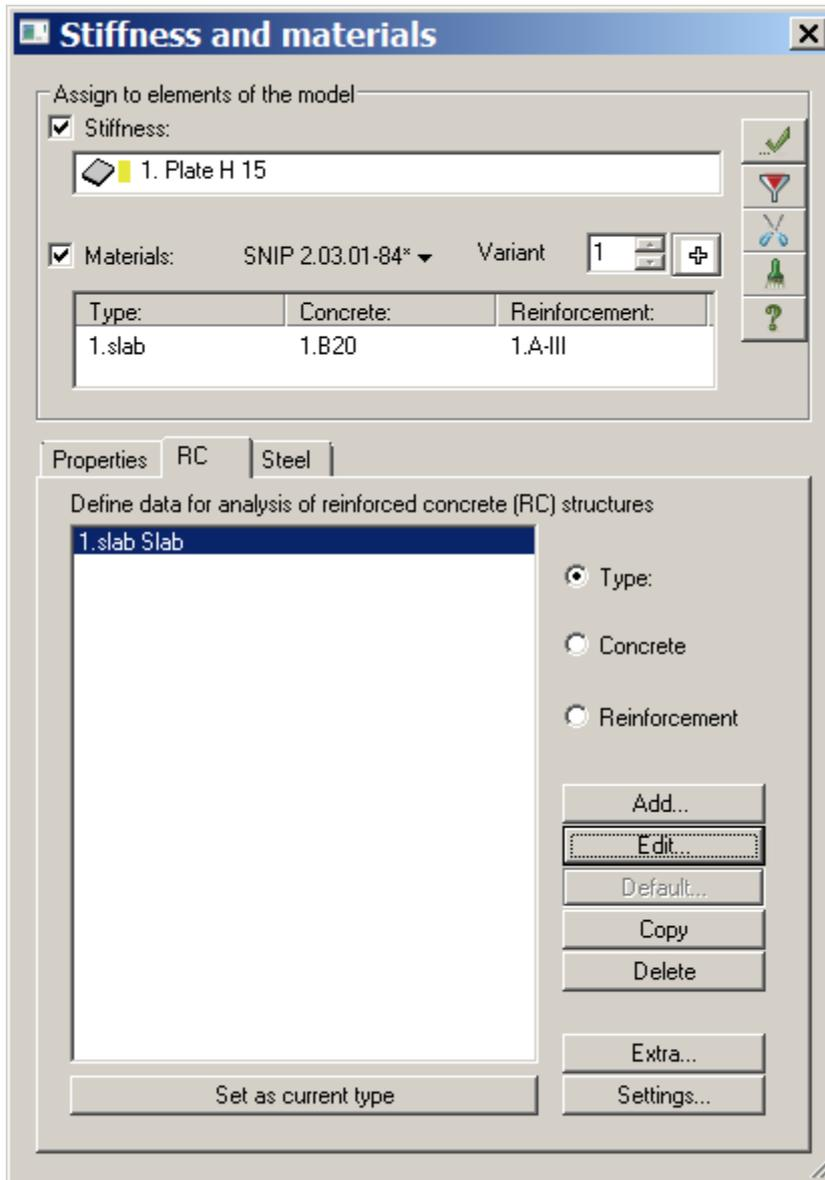

Figure 2.10 **Stiffness and materials** dialog box
- ⇒ To define parameters for reinforced concrete structures, in the **Stiffness and materials** dialog box, click the second tab **Reinforced concrete (RC)**.
- ⇒ Select **Type** option and click **Add** (see Fig.2.10).